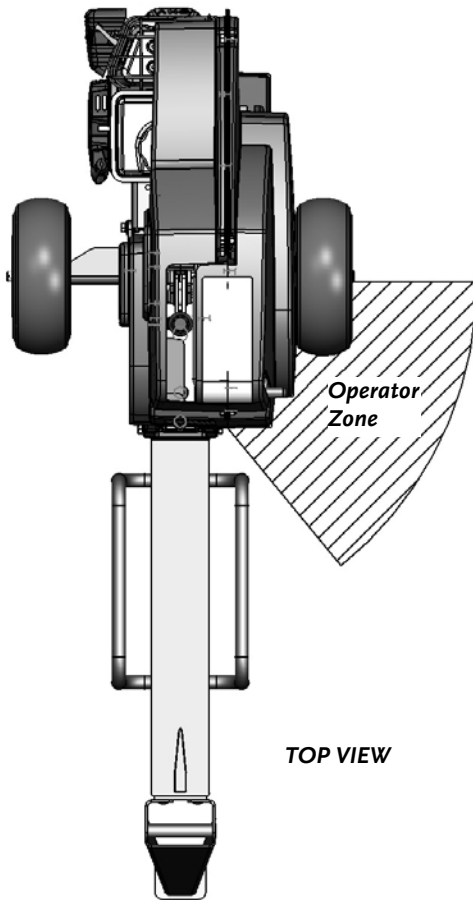

Figure 13
- When operating the Log Splitter, make sure you are standing in the safe operating area (OPERATOR ZONE) as shown in **Figure 13**. You must stay in the safe operating area at all times when the ram is in motion (whether extending or retracting). Never place any part of your body into a position that causes an unsafe operating condition.